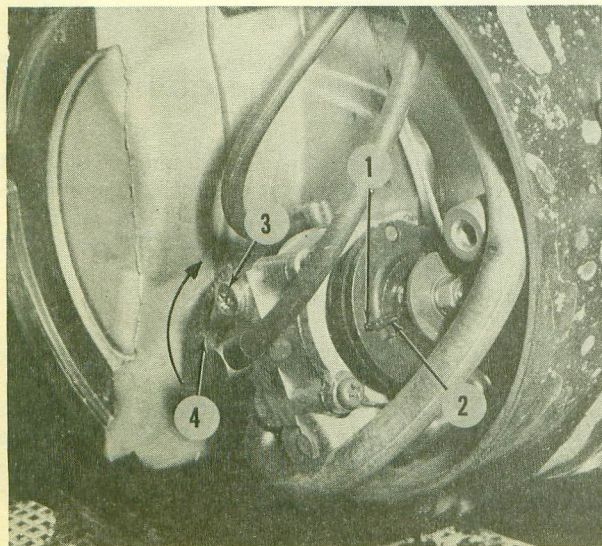

Fig. Y11-4—Adjust pump cable so that marks align as slack is just taken up in throttle cable.
Engine lubrication is accomplished by an automatic oil metering system. Only oils intended for use in air cooled two cycle engines should be used. Adjust pump control cable so that mark on pulley (1—Fig. Y11-4) is lined up with pin (2) when engine is at idle (1300-1400 rpm).
essary to bleed the system. Remove bleeder bolt (3—Fig. Y11-4) and turn starter plate (4) in direction of arrow until pure oil (no air bubbles) is coming from bleeder hole. Holding throttle wide open will speed bleeding operation. Replace bleeder bolt and check for leaks with engine running.